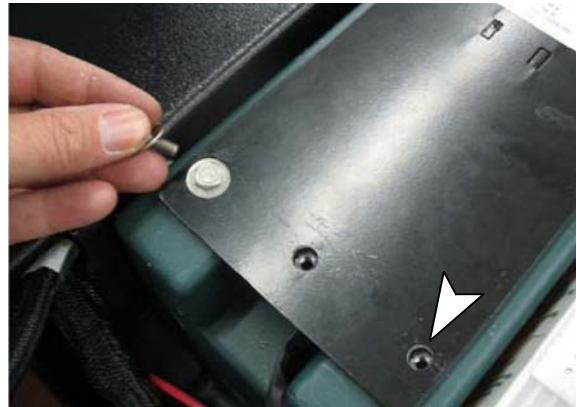

Fig. 7
7. Remove (1) mounting screw from actuator cover plate as shown (Figure 7).